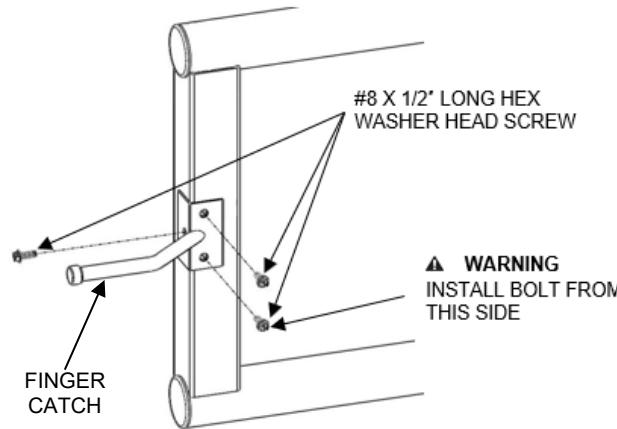

FIG. 7.18
7.8.7. Use a 1/4" nut driver to secure catch with screws (FIG. 7.18).